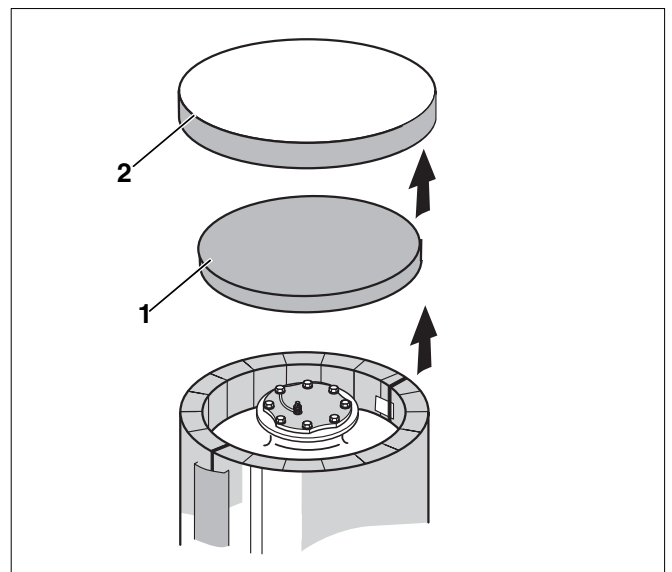

Fig. 15 Thermal insulation – top access port
- Remove the top cover (Fig. 15, **Item 2**). Remove the four screws on the side.
- Remove the thermal insulating disk (Fig. 15, **Item 1**) from the front of the access cover.